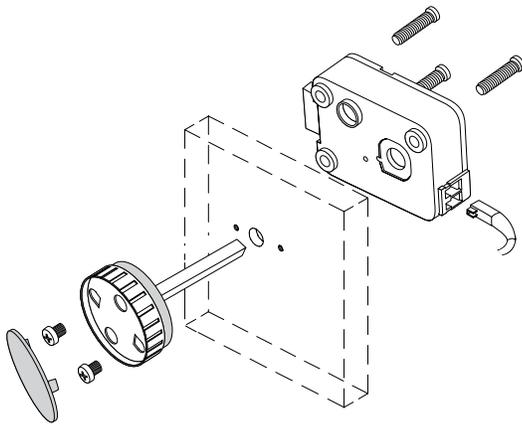

Figure 17
In order to use either the Dead bolt or Spring bolt locks, a method of retracting the bolt will be required. Knob Assembly - P/N 2666 - (Figure 17) is recommended.
4. Install the knob assembly using the two 8-32 X 5/16 phillips pan screws (Figure 17).
7. Connect the cable coming from the Entry Device directly into the connector port marked ENT on the lock (Figure 17).